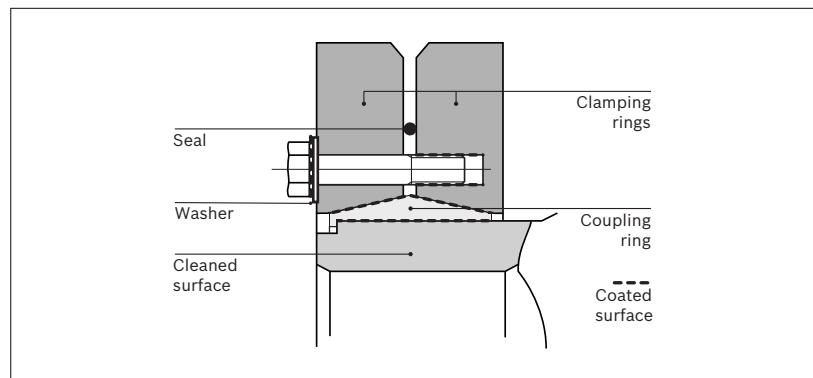

Fig. 3.8
- The conical surface between the coupling ring and the clamping rings + the bolts shall be coated with MoS2 (Molykote), see figure 3.8. This is done from the factory at delivery. When a motor has been in for overhaul or service and shall be reassembled it may be necessary to lubricate those surfaces with Molykote again but remember: only the specified surfaces!